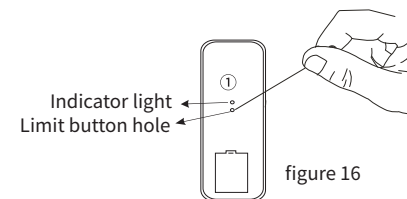
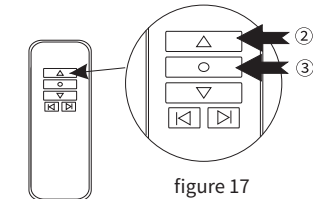

figure 16
figure 17
- b. Use a small paper clip or small round needle to insert the electronic positioning setting key hole of the elevator on the back of the remote control (as shown in figure 16), press the electronic positioning setting button of the elevator, the red and blue LEDs will light up, and then press the elevator Rack up button, at this time, after the lift rises to a suitable position, press the stop button of the remote control (as shown in Figure 17), and then press the up button electronic positioning setting button, the red and blue light-emitting diodes are off, and the lift moves up and down. Once, the electronic upper limit setting of the lifting frame is completed,